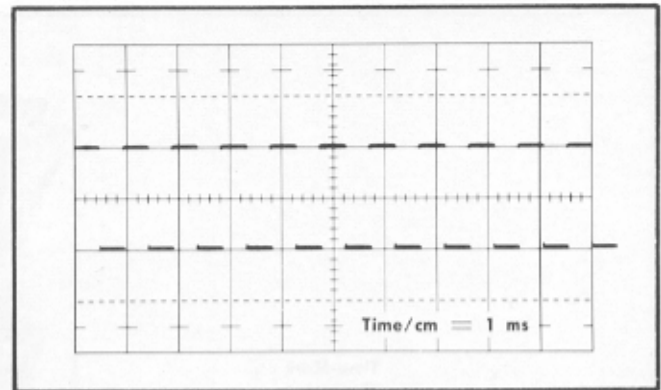

Fig. 6-9. Typical display showing Amplitude Calibrator repetition rate.
- d. Check—Test oscilloscope display contains 7.5 to 12.5 cycles in 10 divisions (repetition rate is 1 kHz $\pm 25\%$). See Fig. 6-9.